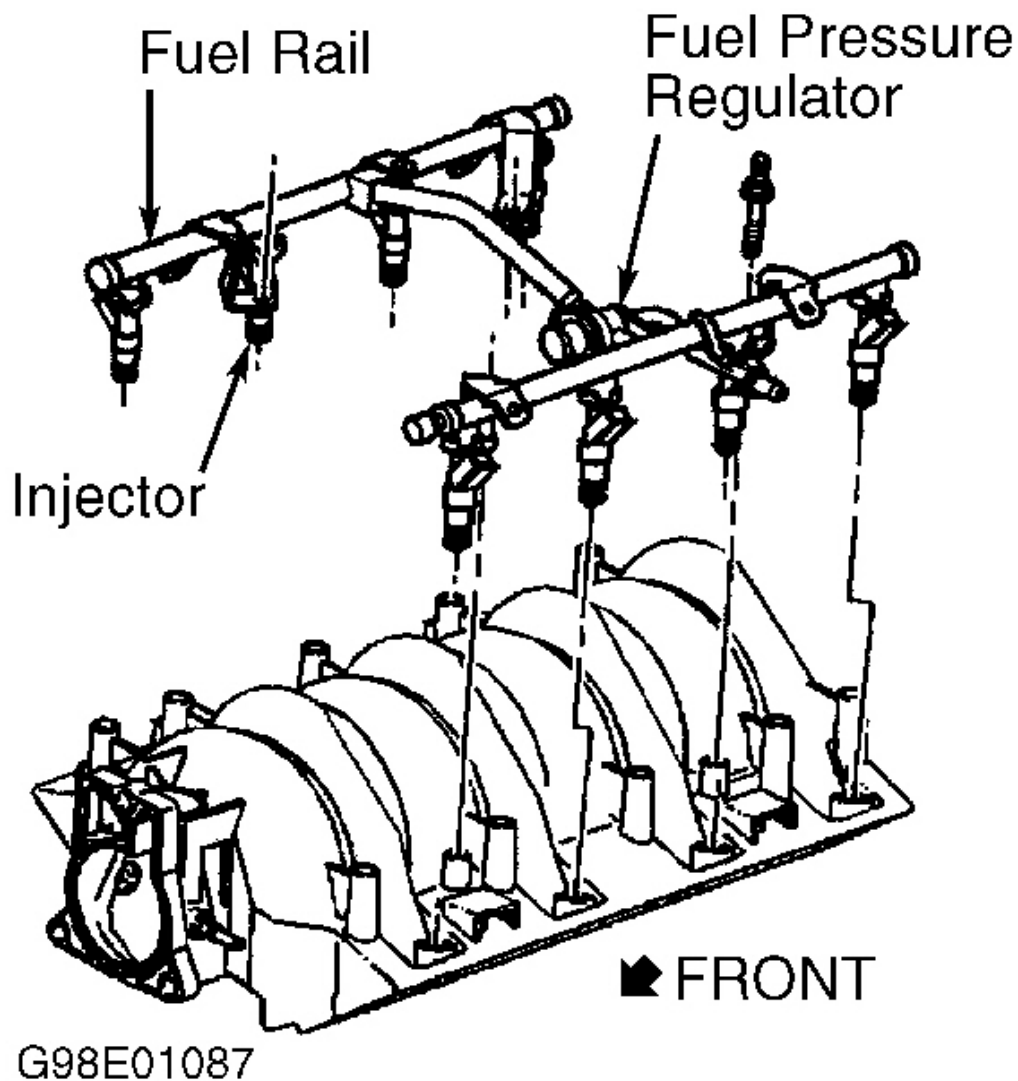

Fig. 1: Locating Fuel Rail Assembly Components (VIN G)
3. Remove fuel line retaining bolt. Disconnect electrical connectors from injectors. Remove fuel rail retaining bolts. Remove fuel rail from intake manifold using equal force on both sides of fuel rail. See **Fig. 1** . Remove injector-to-fuel rail retaining clip. Remove injector from fuel rail. Remove injector "O" rings and discard.